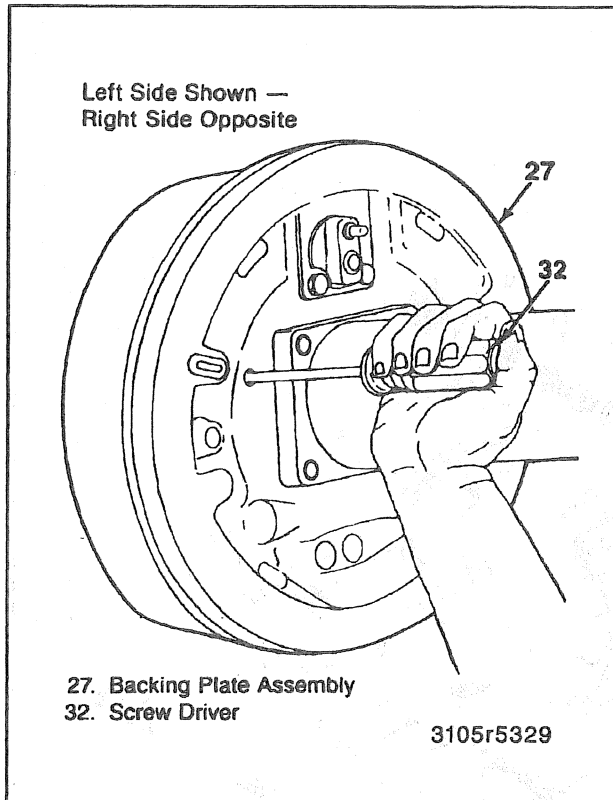

Figure 2—Pushing the Parking Brake Lever Off its Stop
- C. Remove the access hole plug (25) from the backing plate and insert a screwdriver through the hole to push the parking brake lever off its stop (figure 2).
6. Actuator spring (1) and adjuster actuator (3).
- A. Raise the lever arm of the actuator (3) until the upper end is clear of the slot in the adjuster screw (12) (figures 2 and 3).
- B. Slide the actuator (3) off of the adjuster pin (28).
- C. Disconnect the actuator spring (1) from the shoe (7).
7. Hold-down spring assemblies (5) and pins (6).
8. Lower return spring (4).
B. Lift the lower return spring (4) over the anchor plate.
9. Shoe and lining assemblies (7 and 8) along with the upper return spring (2) and adjusting screw assembly.